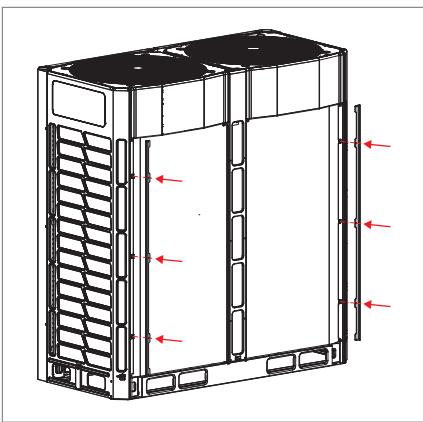

Fig. 16: Mounting the adapters
- Only for Belaria® VRF (67): Prepare the heat pump for the installation of the rear protection hoods.
- Instead of the protective grid, screw the enclosed adapters to the heat pump with the same screws (see Fig. 16).